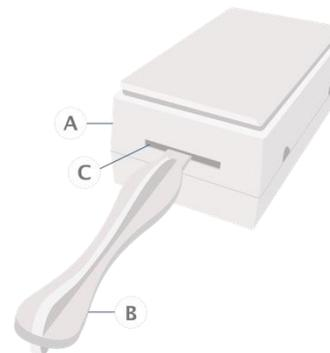

Figure 2 Open Pulse Converter
1. Open the Pulse Converter plastics by pressing the opener tool (included) firmly into the release slot (Figure 2).
- Open the Pulse Converter plastics by pressing the Opener Tool (included) firmly into the release slot (Figure 2).